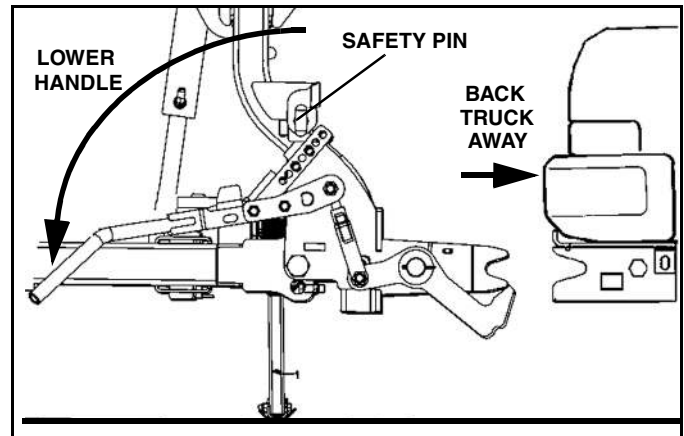

Figure 1-54
4. Pull safety pin on engagement handle to release and lower handle to disengage plow from truck. (See Figure 1-54).